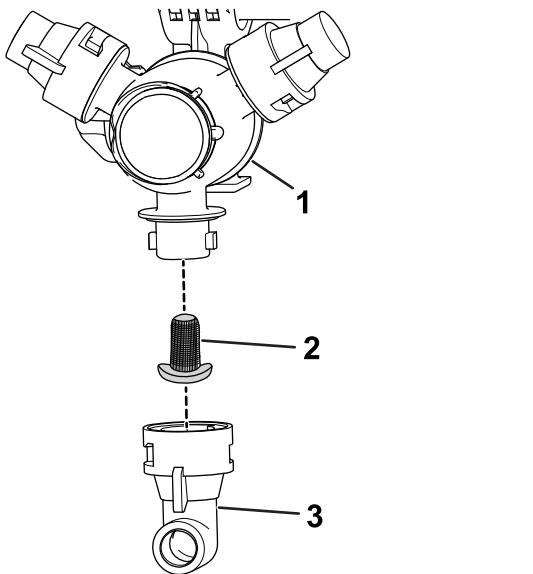

Figure 91
2. Remove the nozzle from the spray turret (Figure 91).
3. Remove the nozzle filter (Figure 91).
5. Install the nozzle filter (Figure 91).
6. Install the nozzle onto the spray turret (Figure 91).